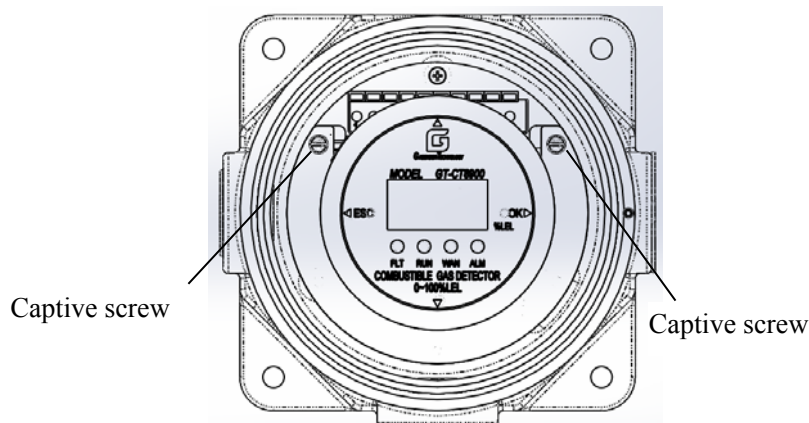

Figure 5: Captive Screw Position
GASENSOR TECHNOLOGY recommends using 4-wire shield cable as the GT-CT8900 power supply & serial communication cables. The layout of Terminal Blocks TB1, TB2 & TB3 of GT-CT8900 is shown in figure 5. To ensure safety, connect the GT-CT8900 to DC power supply (Ground) first, then the MODBUS and analog devices, and lastly +24 VDC power supply. Power must remain disconnected until all other wiring connections have been made and the connection correctness has been checked.
2. Remove both “HART” and “Display” PCB’s by loosening the captive screws. Refer to the figure 5 below.